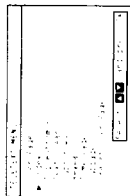

Fig. 35.
- 2 Using + or -, select the teletext function you want and press OK. (See Fig. 35)